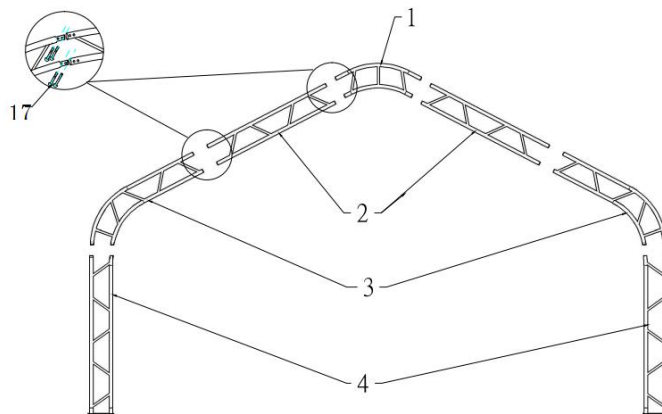

Figure 5
2. Figure 5 shows to connect the Roof bent tube (No.1), Sidewall bent tube (No.2), Shoulder bent tube (No.3), and
Standing leg(No.4) with Bolt 8x60(No.17), then put the arch into tube of the Base flange by hoist, and assemble every group arch by turns(see Figure 5)